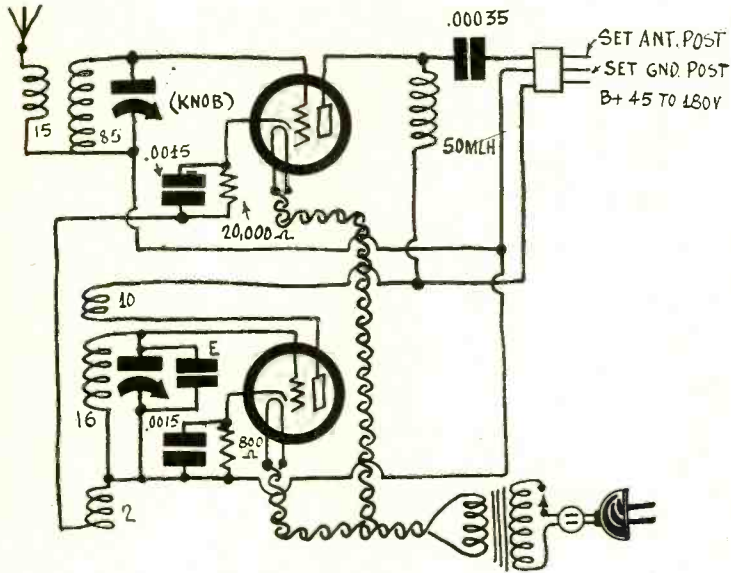

FIG. 1
**S**UCCESS in converting any tuned radio frequency receiver into a Superheterodyne, and at the same time instituting remote control of tuning, is easy. The diagram for accomplishing this is shown in Fig. 1.
Tuning the tuned radio frequency receiver from a distance is accomplished by use of either the AC model Superheterodyne converter shown in Fig. 1, or the battery model shown in Fig. 2, since a cable connects converter and receiver. How long this cable will be depends on how far the set is from the converter. The standard cable connection is six feet, but if desired another cable may be connected to extend the length twelve feet more, or two additional ones to extend the length twenty-four feet more, then making the total thirty feet.
For Fig. 1